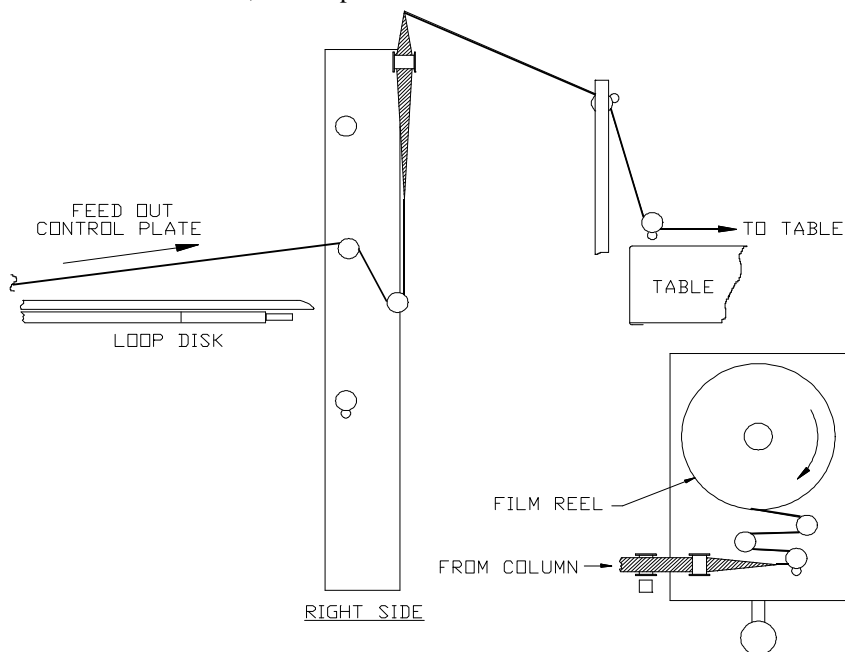

Figure 8
2. From the Loop Control Plate to the Table. This will put the film onto the reel head up (See Fig. 8, page 8).
6. Thread the film from the Loop Control Plate to the Table Rewind Spindle (See fig. 8). Program BREAK DOWN can be found in the Table Operation Manual.